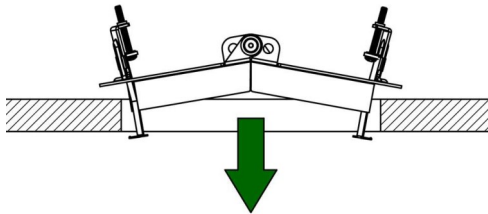

Fig. 5
- Position mounting ring over opening in ceiling and unfold, inserting aperture collar into opening until flange of ring is flush to plenum side of ceiling. (Fig. 5)